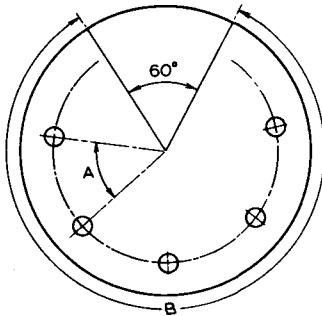

Fig. 1.63
- In the circular plate shown in Fig. 1.63 a sector of  $60^\circ$  is cut out and the remainder divided up to give 5 holes equally spaced. Find the angle A between the holes.